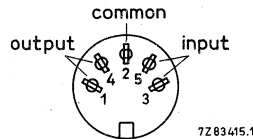

Fig. 3 DIN audio socket.
- DIN-socket (4) for connecting a normal audio cassette recorder (see also Fig. 3). To avoid drop-outs it is recommended that C60 Super Quality Ferrochromium cassette tape be used.